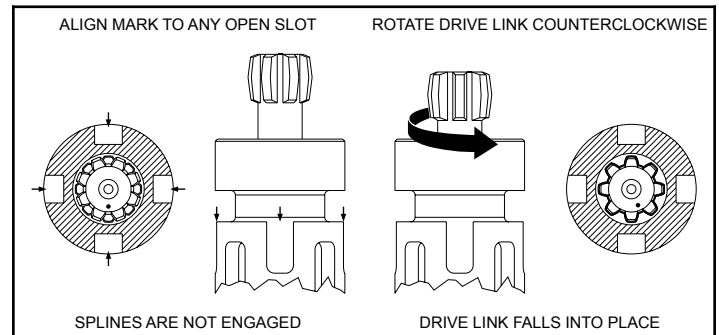

FIGURE 2 - DRIVE LINK / SHAFT TIMING
- Q) Lower the drive link (9) into shaft (17) making sure the timing mark lines up with an open slot in the shaft. If done correctly, the drive link splines will not be engaged in the internal shaft splines at this point. Slightly rotate the drive link (9) counterclockwise until the drive link falls into place and engages the internal shaft splines. See Figure 2 for proper drive link /shaft timing.